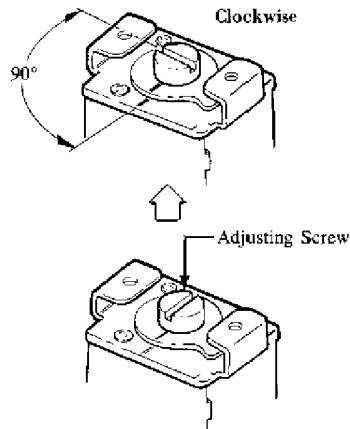

Fig. 3: Adjusting Thermostat
**CAUTION:** Do not turn the adjusting screw more than 90°, otherwise the evaporator core will freeze, resulting in an adverse effect on the cooling performance. See Fig. 3.